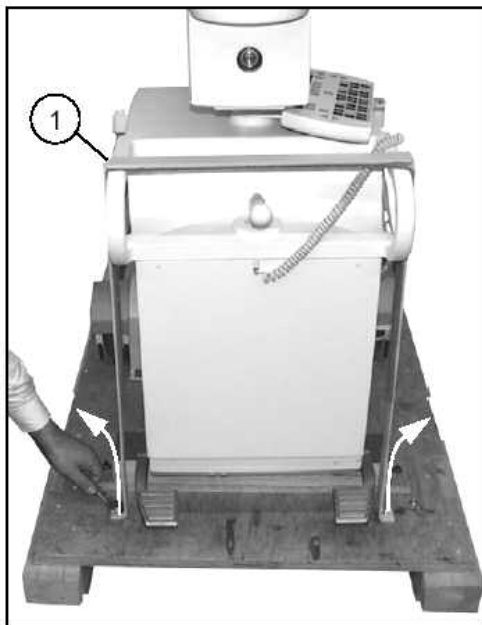

Fig. 3: Retaining clamp\_1
- Unscrew and remove the retaining clamp (1/ Fig. 3 / p. 5).